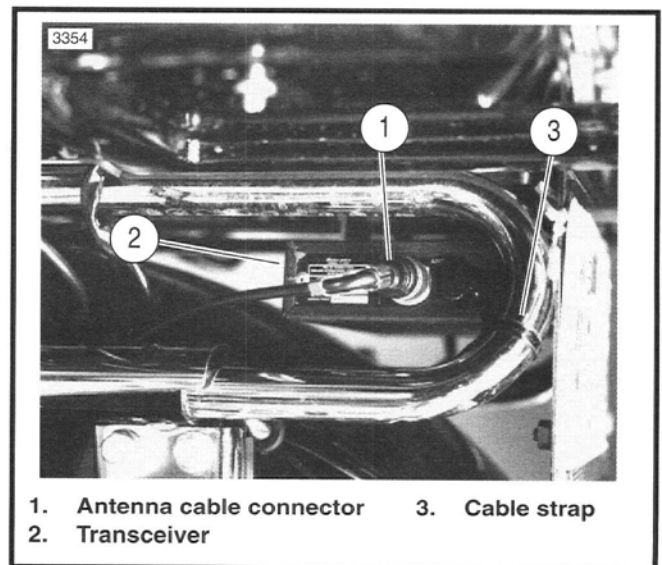

Figure 46. Transceiver (Left Side View)
5. Antenna cable connector at transceiver	See Figure 46. Tighten cable ring at connector (1).
2. See Figure 46. Remove the antenna cable (1) and connect the SWR meter to the transceiver. The SWR meter is connected in series with the antenna cable so the antenna will be connected to the SWR meter.